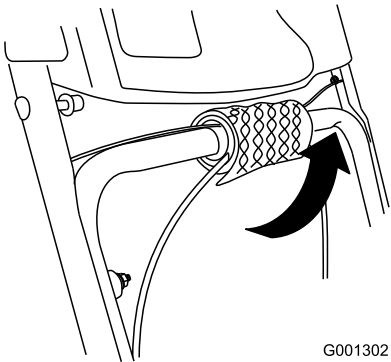

Figure 5
1. Unwrap the cable ends from the lower handle (Figure 5).